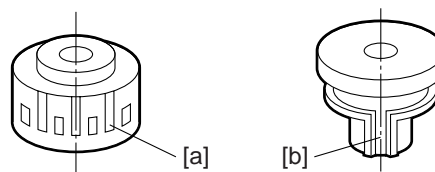

Figure 4-819
- 2) Fix the side magnetic seal at the position shown in Figure 4-819.